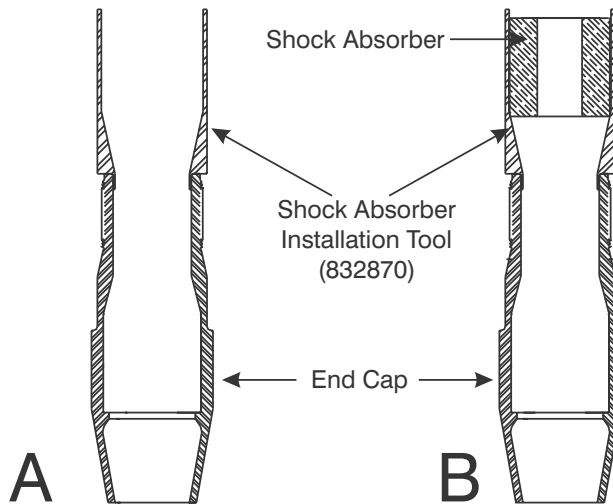

Figure 9-1. End Cap, Tool 832870 and Shock Absorber
1. Position the End Cap (9) in an arbor press with the threaded end up. Insert the Shock Absorber Installation Tool 832870 into the threaded end of the End Cap as shown in Figure 9-1-A.
2. Lubricate the O.D. of the Shock Absorber (8) and the I.D. of the Shock Absorber Installation Tool, 832870 . Place the Shock Absorber into the Installation Tool as shown in Figure 9-1-B.